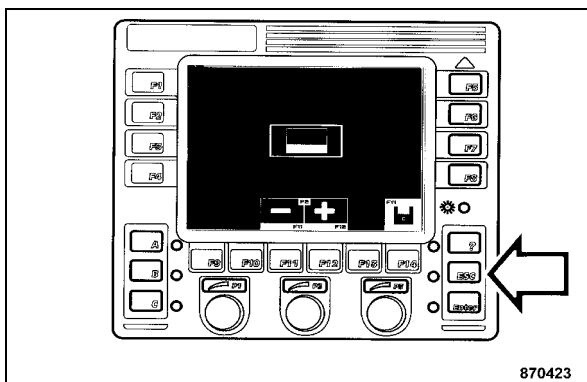

Fig. 88
- Press key "ESC" (Fig. 88) to return to the start screen.